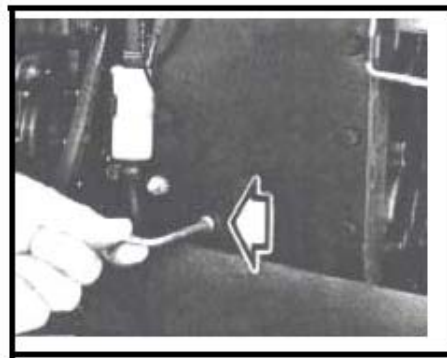

Fig. 2
4. Measure 2 inches forward from the rear corner of the exhaust manifold cover (ref "A") and 1-3/8th inches from the exhaust cover gasket (Ref to "B"). Mark the intersection with a center punch. (See fig. 2).